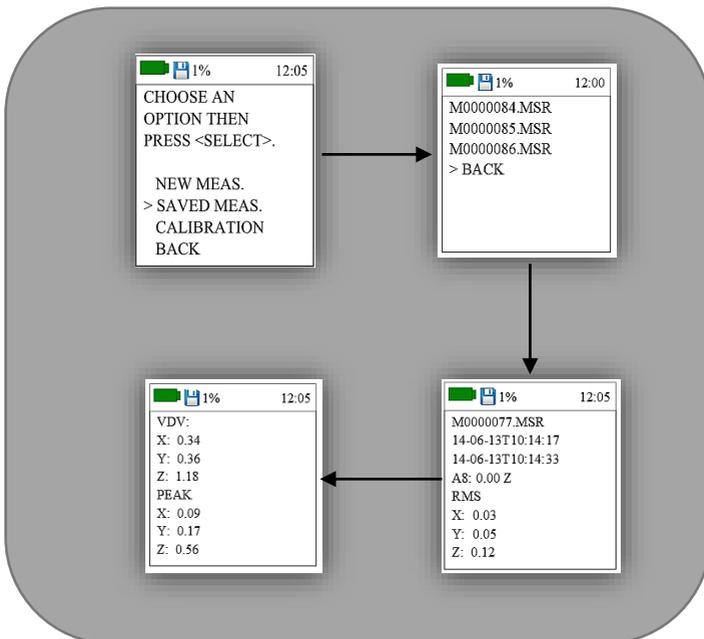

Figure 9: Measurement results
Data from selected measurement file; measurement time; A(8) value, RMS, VDV and Peak values for three directions are shown, see figure 9.